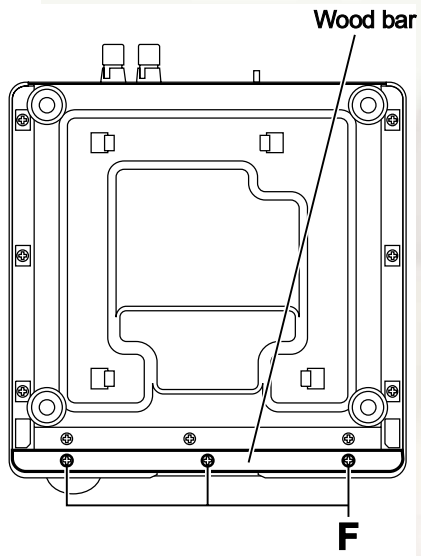

Fig.5
- From the bottom side of the main body, remove the three screws **F** attaching the wood bar. (See Fig.5.)